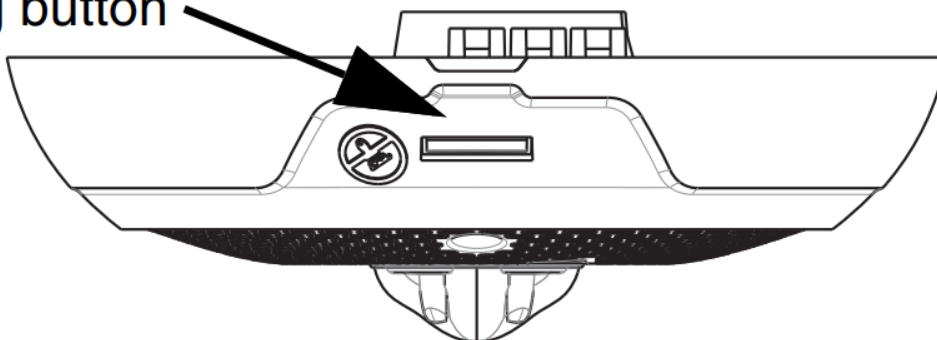

Figure 13 Selecting screw location in a ceiling installation of a surface-mount back box
- **Note for positioning:** Ceiling mount back boxes: Ceiling surface mount back box SBBCR/WL is a common back box for ceiling horn strobes, chime strobes, strobes, speakers, and speaker strobes. Use the top (SPK) mounting holes for ceiling speaker and speaker strobe products. Use the bottom (STR) mounting holes for ceiling horn strobe, chime strobe and strobe installation needs. **(See Figure 13.)**